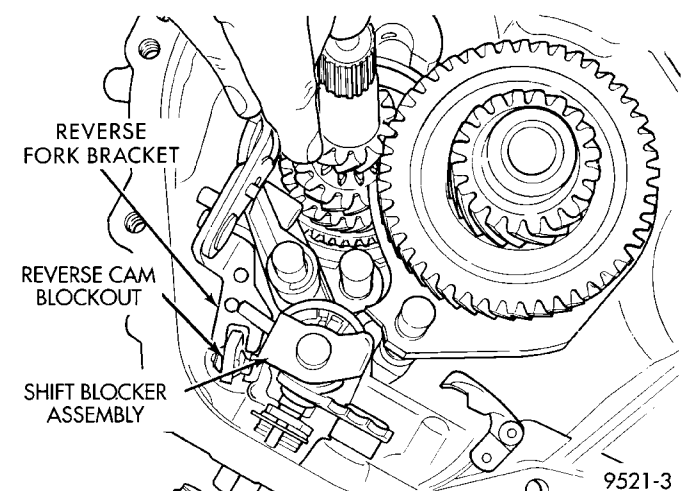
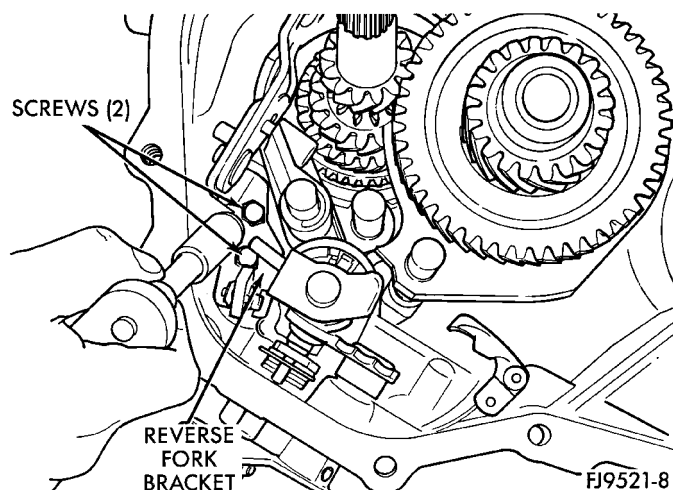

Fig. 73 Reverse Fork Bracket
Fig. 74 Reverse Fork Screws
(19) Install reverse fork bracket and reverse lock-out. Tighten screws to 11 N·m (96 in. lbs.) torque (Fig. 73) (Fig. 74).